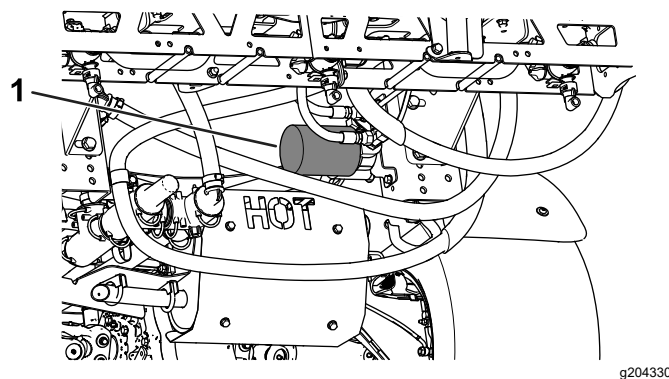

Figure 57
4. Remove the filter (Figure 57).